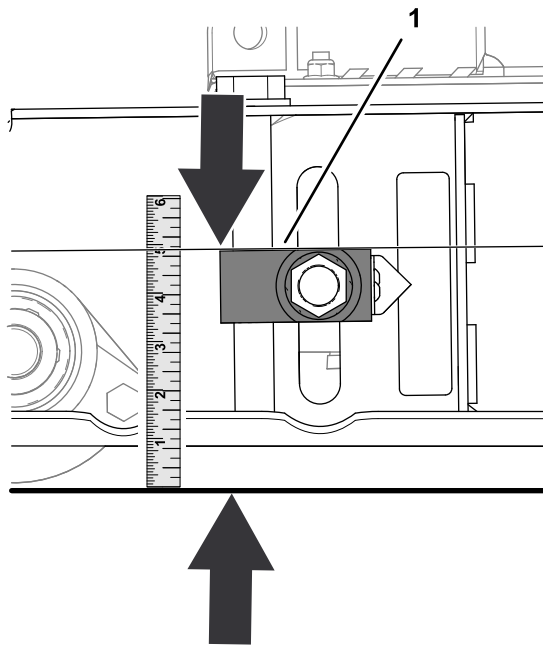

Figure 81
2. Measure the distance between top of adjuster block to the ground (**Figure 81**).